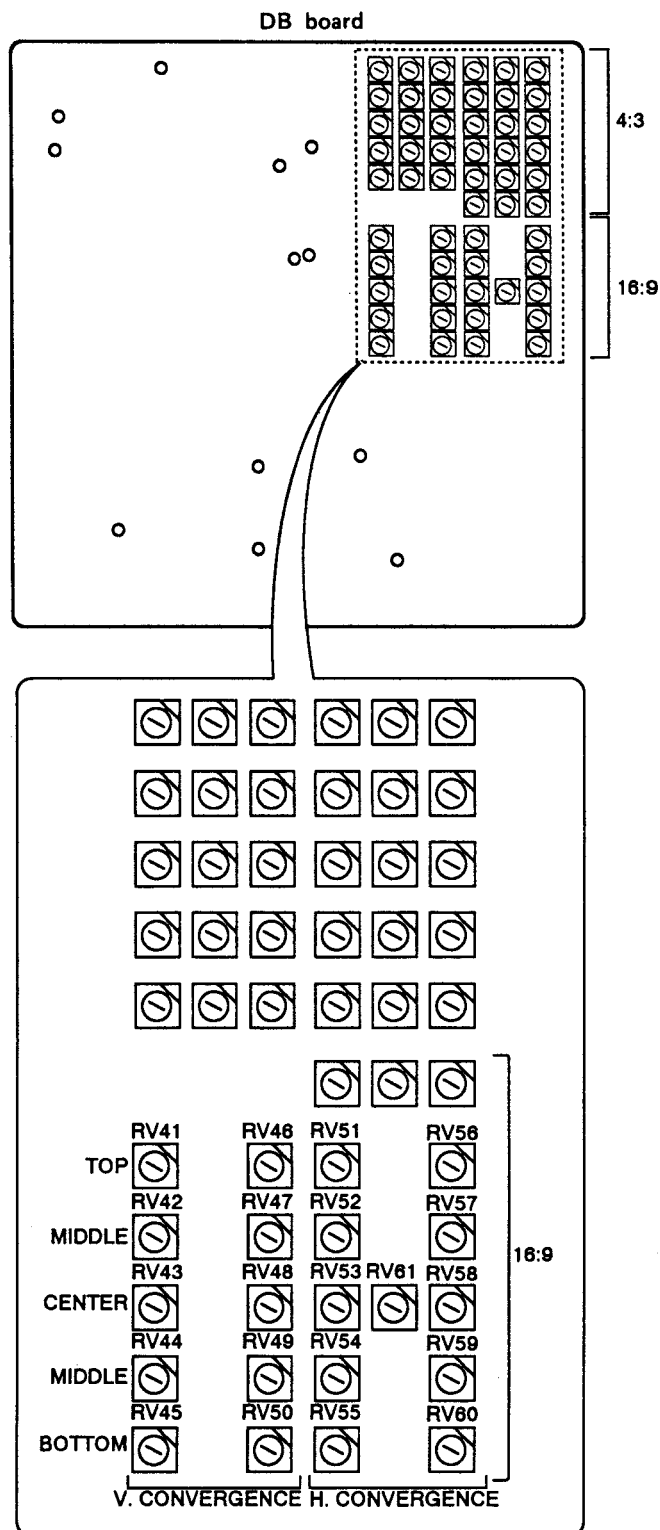

Fig.1-21
- 2. Adjust CONVERGENCE controls (RV41 ~ RV60) on the DB board as shown in Fig. 1-21.